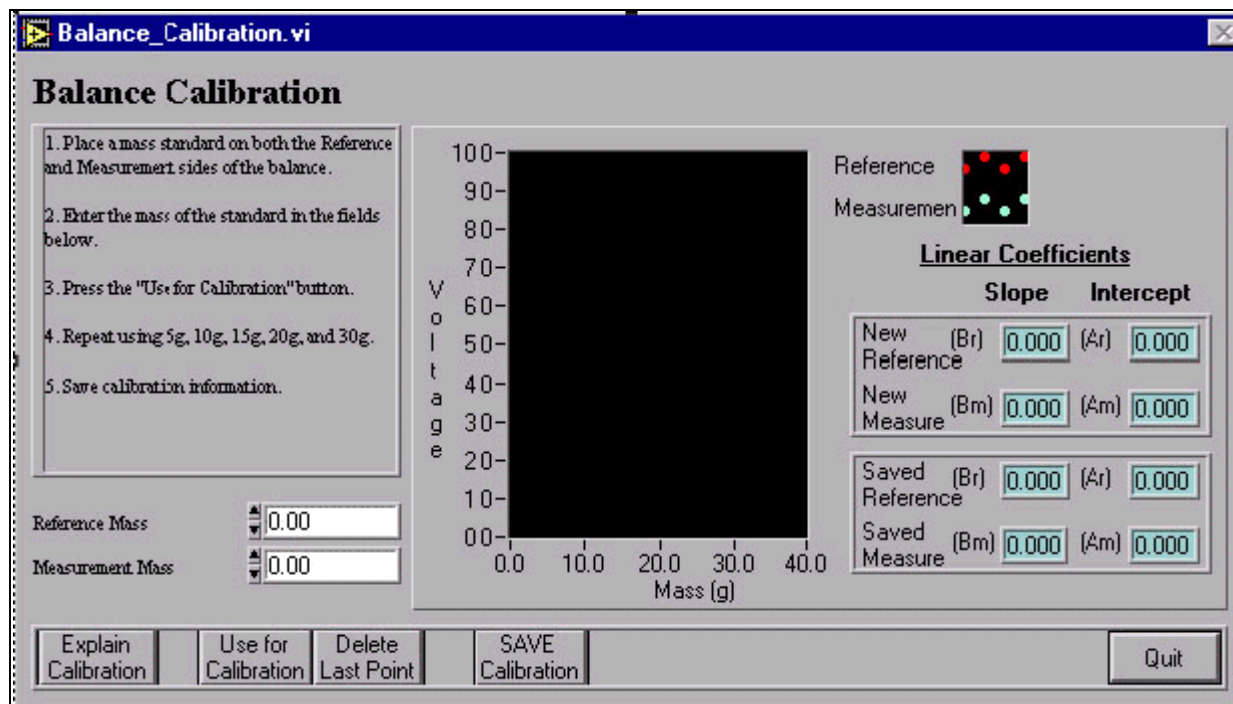

Figure 20. Calibrate the balance at this window.
Before sample analysis, calibrate the balance to assure that it is functioning properly. Click on the **Calibrate Balance** button to open the “Balance Calibration” window (See Figure 20).
2. The compiled graph of all weight standards is displayed on the main “Balance Calibration” window (See Figure 20 above). Verify that the correct standard mass is weighed.